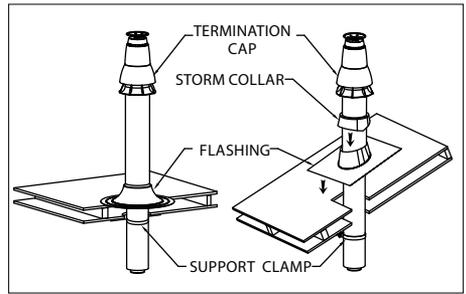

Figure 17
Vertical Concentric (Fig.17)
5. Attach flashing to roof. (Fig.17)